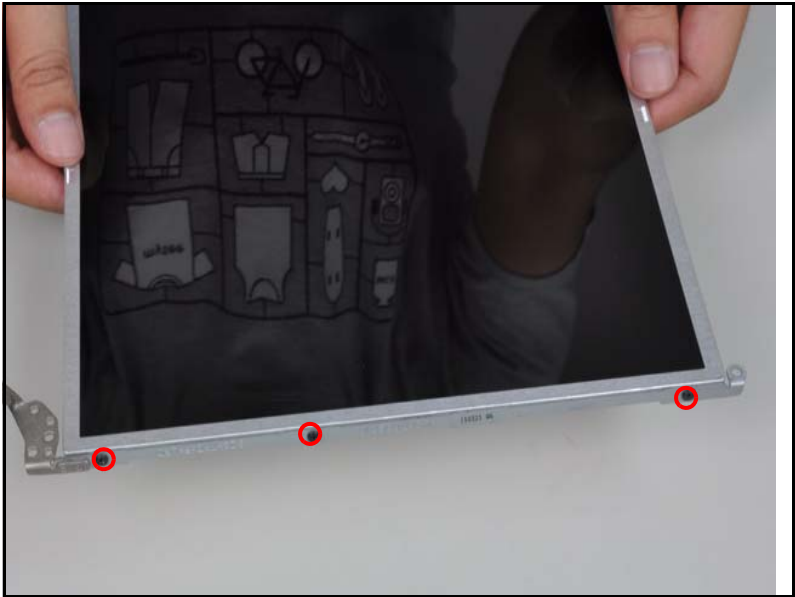

Figure 3-49. LCD Hinges
1. Remove the three (3) screws on each side of the hinge (Figure 3-49).
1. Place the LCD hinges on the LCD module (Figure 3-49).
2. Install and secure the six (6) screws to the LCD hinges (Figure 3-49).